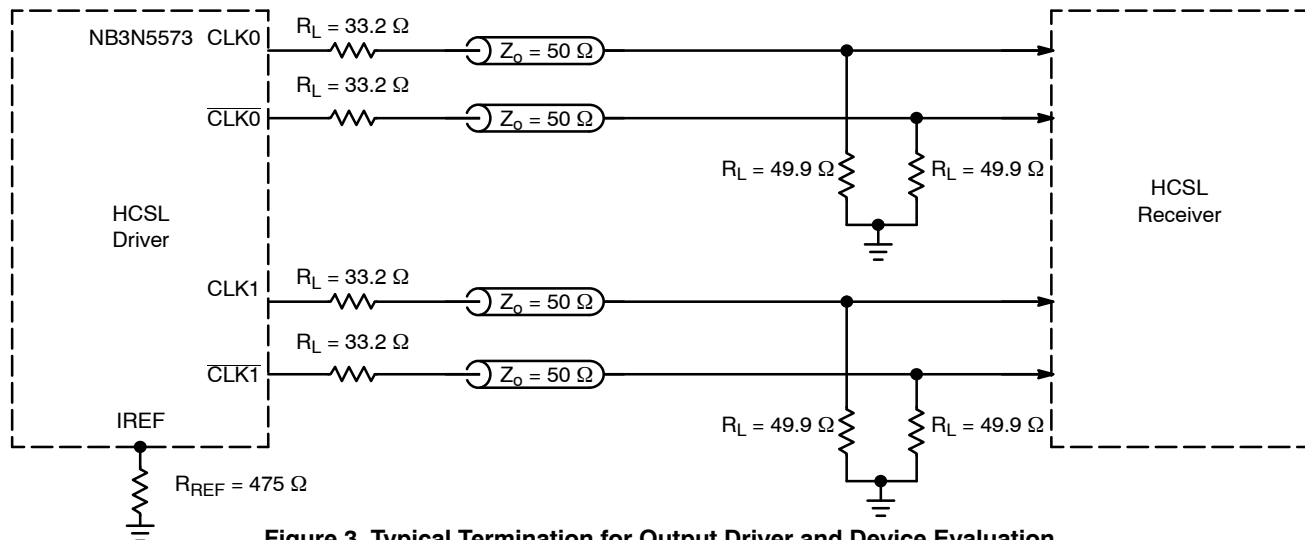

Figure 3. Typical Termination for Output Driver and Device Evaluation
4. Measurement taken with outputs terminated with R_S = 33.2 Ω , R_L = 49.9 Ω , with test load capacitance of 2 pF and current biasing resistor set at 475 Ω . See Figure 3.
5. Measurement taken from differential output on single-ended channel terminated with $R_S = 33.2 \Omega$, $R_L = 49.9 \Omega$, with test load capacitance of 2 pF and current biasing resistor set at 475 Ω . See Figure 3.